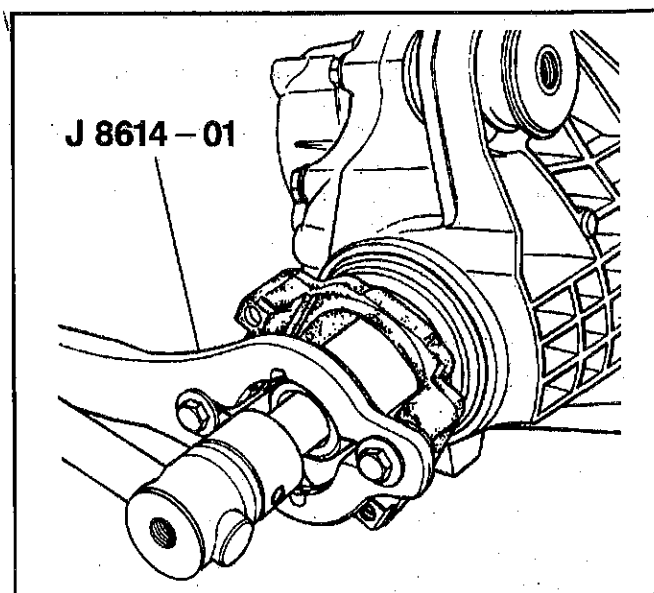

Figure 22—Removing the Pinion Nut and Flange
- Hold the pinion flange with J 8614-01 (Figure 22).
7. Pinion flange using J 8614-01 (Figure 22).
3. Washer and a new nut using J 8614-01 (Figure 22).
7. Pinion flange (Figure 22).
4. Washer and nut using J 8614-01 (Figure 22).